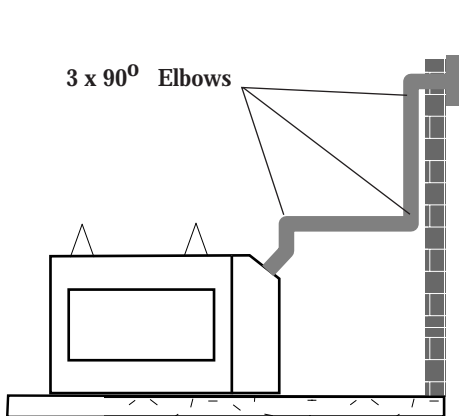

Figure 18 - Maximum Three (3) 90 Elbows Per Installation
- The maximum number of 90° elbows per side wall installation is three (3), the maximum horizontal run is 20" (Figures 18, 19)